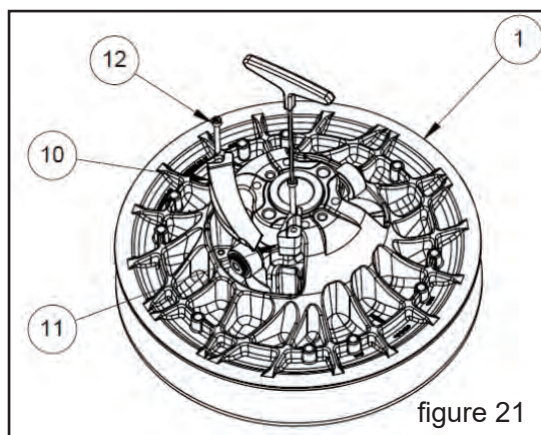

figure 21
- ◆ Using the 3mm hexagonal key, remove the 4 screws ⑫ of the 2 forward ramps ⑩ and the 2 rear ramps ⑪ from the fixed sheave ① (figure 21).
- ◆ Remove the 2 forward ramps ⑩ and the 2 rear ramps ⑪.
- ◆ Disassemble the 2 sheaves ① and ②.